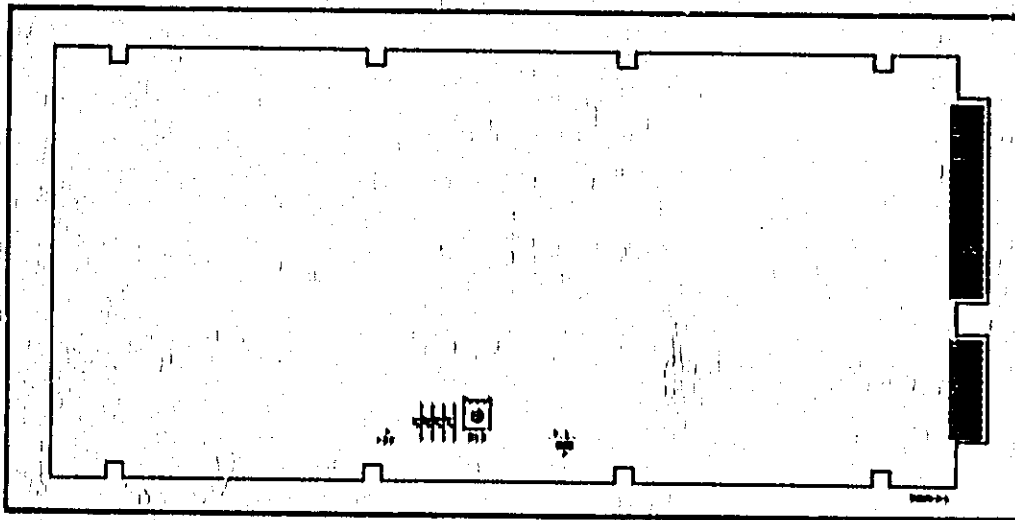

Figure 5-1. Adjustment Locations.
5-4. Test point and adjustment locations are supplied as an assembly locator (see Figure 5-1). Most test points and adjustments are made with the front panel swung outward.
a. Using Figure 5-1 as a guide, connect the voltmeter between TC GND and -6.9V test points. Install J1-J4.